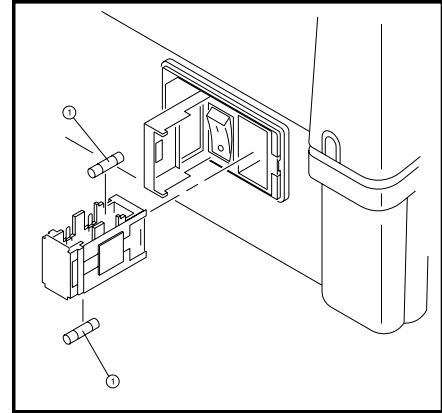

Figure 5.3
5. Use the screwdriver to remove the fuse holder to access the fuses as shown in Figure 5.3.
6. Unsnap both fuses to remove them (refer to Figure 5.3, [Item #1]).